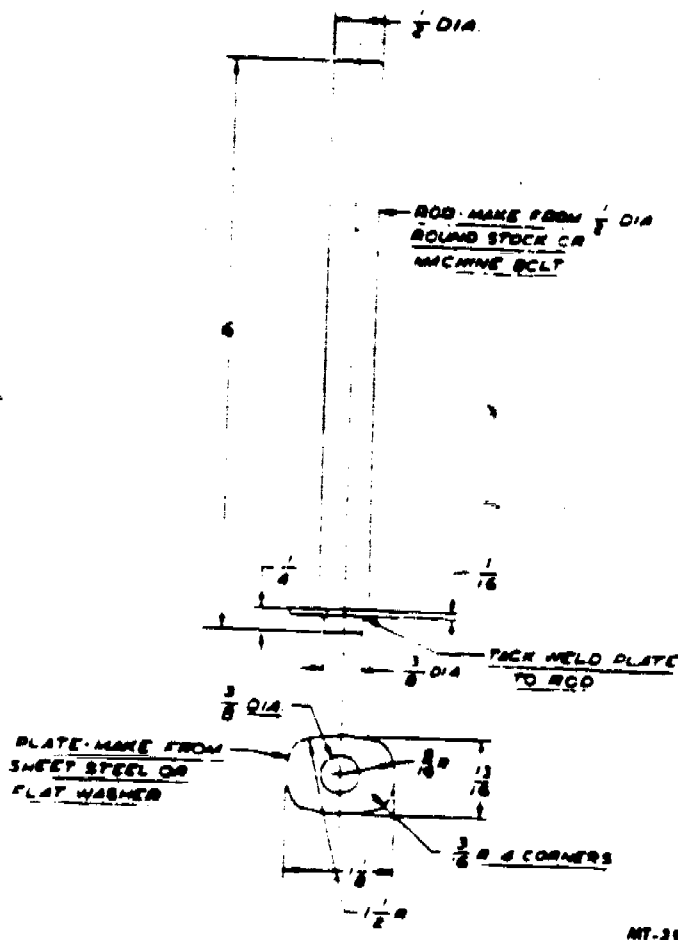

Fig. 85 - Spring Compressor Tool to Assist in Valve Spring Retaining Ring Installation.
8. To assist in installing valve spring retaining rings, a tool, as shown in Fig. 85, can be made locally.